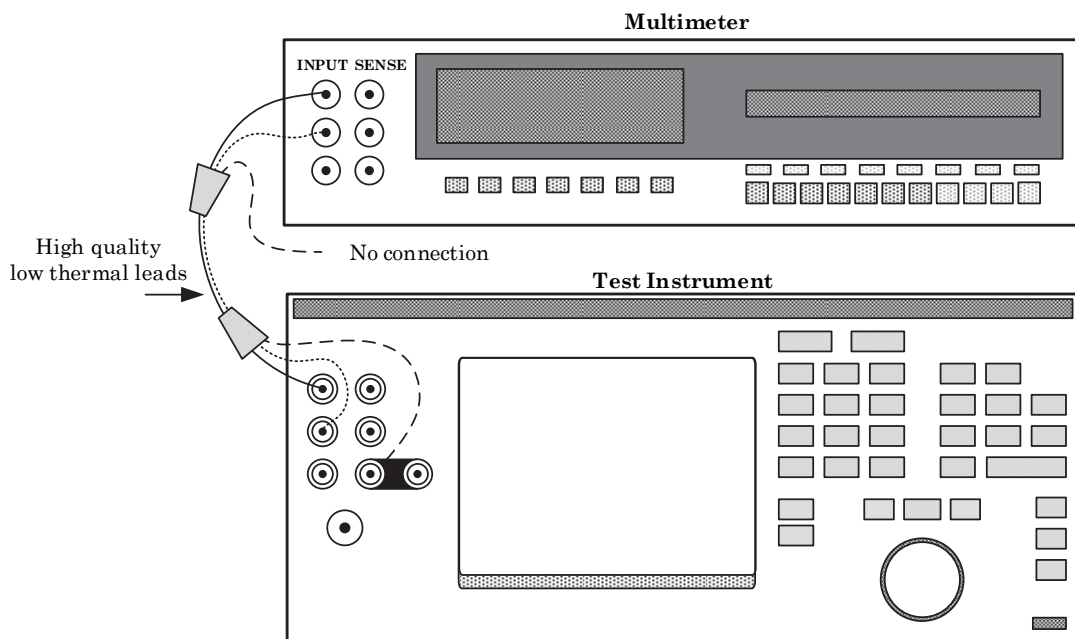

Figure 4. Zero DCV Output Connection.
(4) Zero multimeter 200 mVdc and 20 Vdc ranges. Set multimeter on the 200 mV range.
(5) Disconnect leads from low thermal binding post and connect equipment as shown in figure 4.